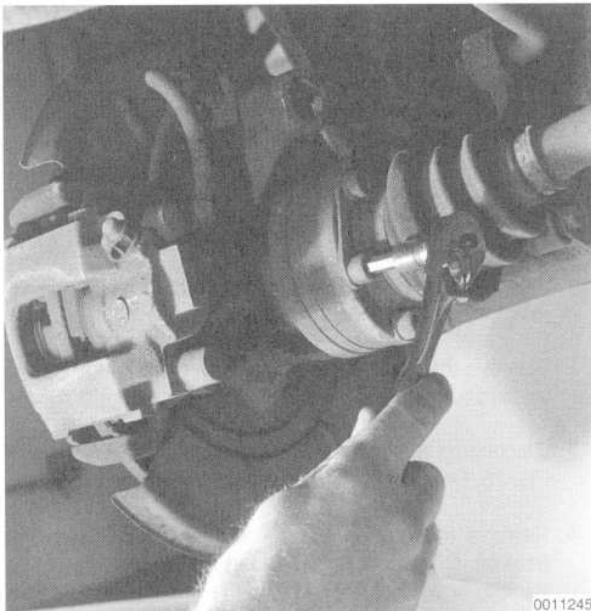

Fig. 10. Drive axle outer CV joint bolt being removed.
2. Remove the drive axle CV joint bolts from both ends of the drive axle and remove the drive axle from the car. See Fig. 10.